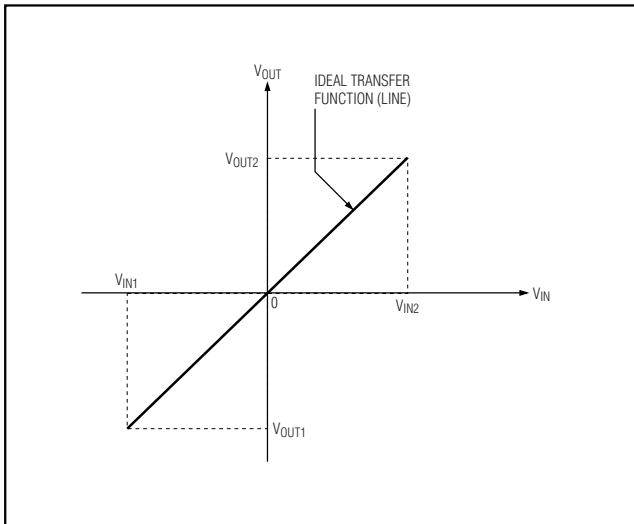
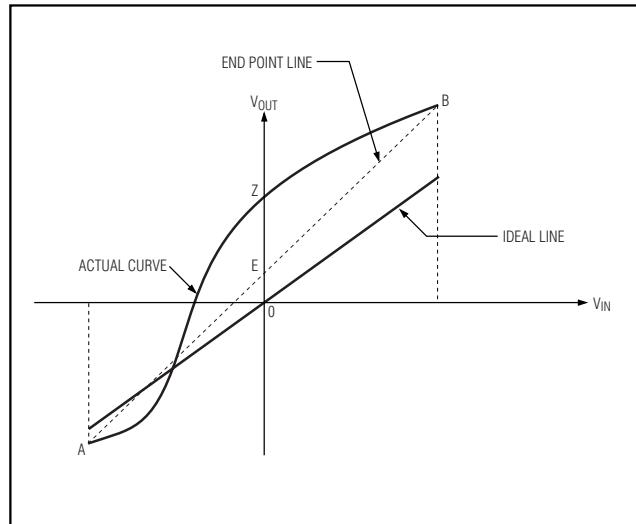
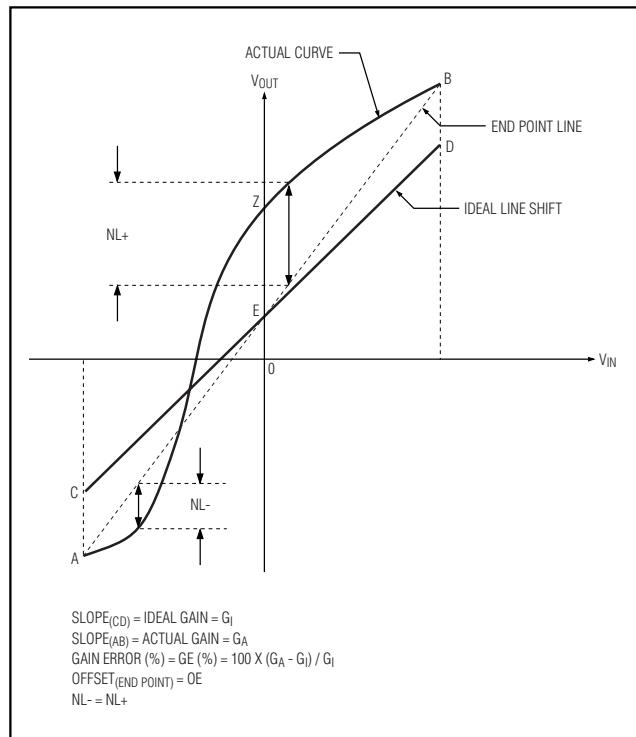

Figure 3. Transfer Function of an Ideal Instrumentation Amplifier (A Straight Line Passing Through the Origin)
Figure 4. Typical Transfer Function for a Real Instrumentation Amplifier
Figure 5. Typical Transfer Function for a Real Instrumentation Amplifier (Ideal Line (CD) is Shifted by the End Points Offset (OE) to Visualize Gain Error)
In order to understand these terms, we must look at the transfer function of an ideal instrumentation amplifier. As expected, this must be a straight line passing through origin with a slope equal to the ideal gain (see Figure 3). If the ideal gain is equal to 10 and the extreme applied input voltages are  $-100mV$  and  $+100mV$ , then the value of the output voltages will be  $-1V$  and  $+1V$ , respectively. Note that the line passes through the origin and therefore a zero input voltage gives a zero output response.
The transfer function of a real instrumentation amplifier is quite different from the ideal line pictured in Figure 3. Rather, it is a curve such as the one indicated as the typical curve in Figure 4, connecting end points A and B.
Second, even if there was no nonlinearity error, that is, the actual curve in Figure 4 was a straight line connecting the end points A and B, there exists an obvious slope deviation from that of an ideal gain slope (drawn as the "ideal" line in Figure 4). This rotational error (delta slope) is a measure of how different the actual gain ( $G_A$ ) is from the expected ideal gain ( $G_I$ ) and is called Gain Error (GE) (see equation).
Figure 5 is the same as Figure 4, but the ideal line (CD) is shifted up to pass through point E (the Y intercept of the end points line AB).
The rotational nature of gain error and the fact that it is pivoted around point E in Figure 5, shows that gain-error contribution to the total output voltage error is directly proportional to the input voltage. At zero input voltage, the error contribution of gain error is zero, that is, the total deviation from the origin (the expected zero output value) is only due to end points offset error (OE) and nonlinearity error at zero value of input (segment EZ on the vertical axis).
The nonlinearity is the maximum deviation from a straight line, and the end point nonlinearity is the deviation from the end-point line. As shown in Figure 5, it is likely that one encounters two nonlinearities, one positive and the other a negative nonlinearity error, shown as NL+ and NL- in Figure 5.